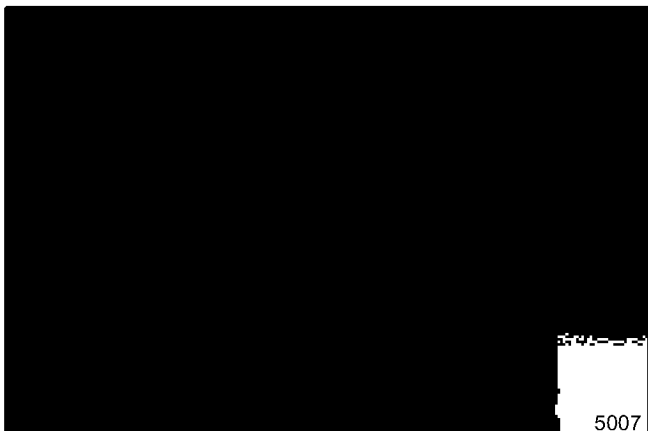

Figure 4. Installing Reel Drive Belts
7. Position the reel to allow installation of the three reel drive belts onto the reel pulley (see figure 4).